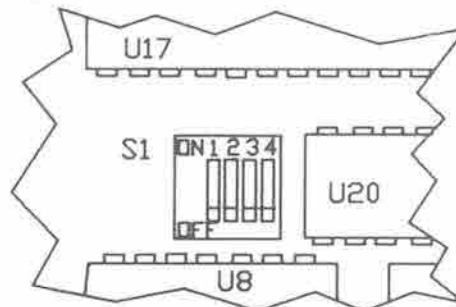

FIGURE 2
4. The Dip Switch must be added to the main board (see Figure 1, for its location) the 8 holes will need to be desoldered. Place the switch on the board as shown in Figure 2. Solder switch in place.